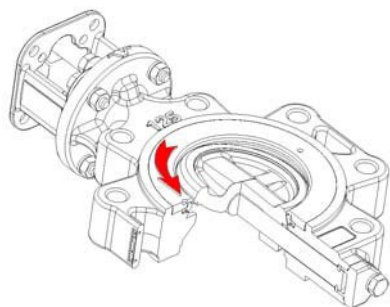
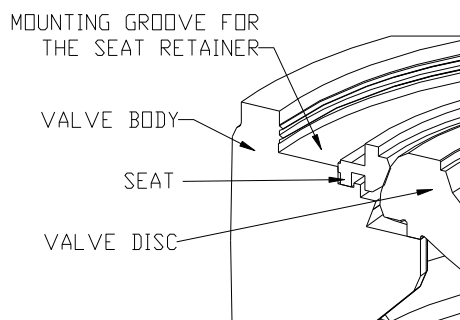

Fig.21
Fig.22
- 12.2.5. Open the disc at 90°, loosen the seat retainer (Fig.21) in turning counterclockwise, remove the retainer and seat (Fig.22). If the retainer was stuck then using a hexagonal spanner or +” screwdriver to hold the holes of retainer and turn it up.